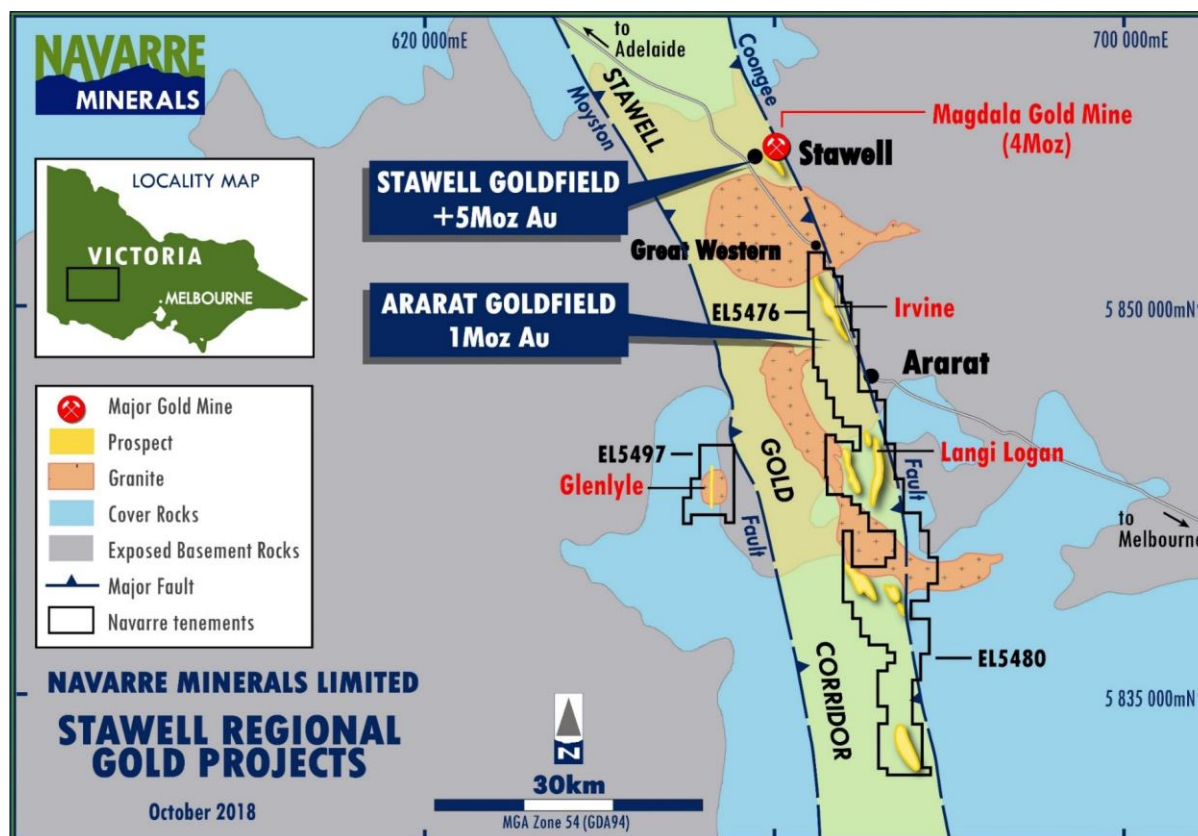

Figure 1: Stawell Gold Corridor properties location map
Navarre Minerals Limited (ASX: NML) (Navarre or the Company) is pleased to announce exceptional high-grade gold intersections from its ongoing first-pass air-core (AC) drilling program at its 100%-owned Langi Logan Gold Project in western Victoria (Figure 1).
The Langi Logan Gold Project is one of seven basalt dome targets contained within the Company's tenement package covering a 60km strike of the prospective 'Stawell Gold Corridor' (Figure 1). A 40km section of exposed basement rocks within this 'Corridor' has yielded over six million ounces of gold in two multi-million ounce goldfields. The southern extension of the Stawell Gold Corridor beyond the historical goldfields is concealed by recent basalt cover and is a prime exploration target (Figure 1).